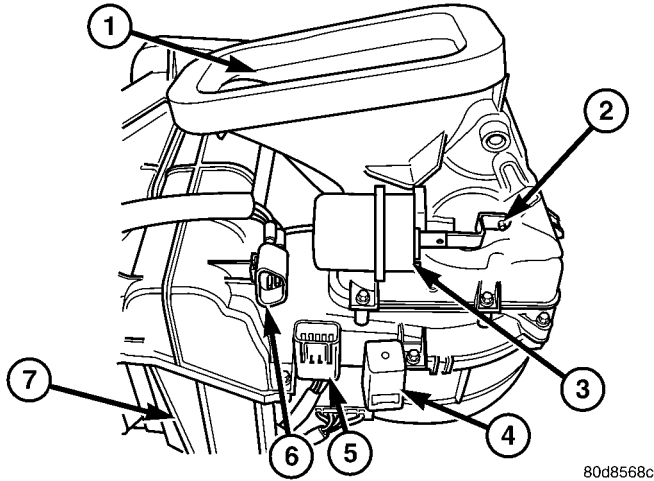

Fig. 17 Blower Motor Relay and Vacuum Actuator
(1) Disconnect and isolate the battery negative cable.
(2) Remove the glove box from the instrument panel (Refer to 23 - BODY/INSTRUMENT PANEL/GLOVE BOX - REMOVAL).
(3) Locate the blower motor relay through the instrument panel glove box opening. The relay is mounted upright and to the right of the instrument panel harness (Fig. 17).
(4) Unplug the blower motor relay from its wire harness connector.